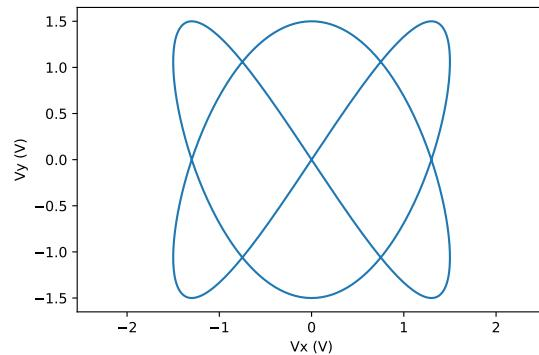

Figure 4.8: Lissajous curve constructed using Scientific Python corresponding to the scope trace in Fig. 4.6a.
**Plot 4.6.** Reproduce fish pattern using scientific python to draw the parameterized shape. For example, see Fig. 4.8.